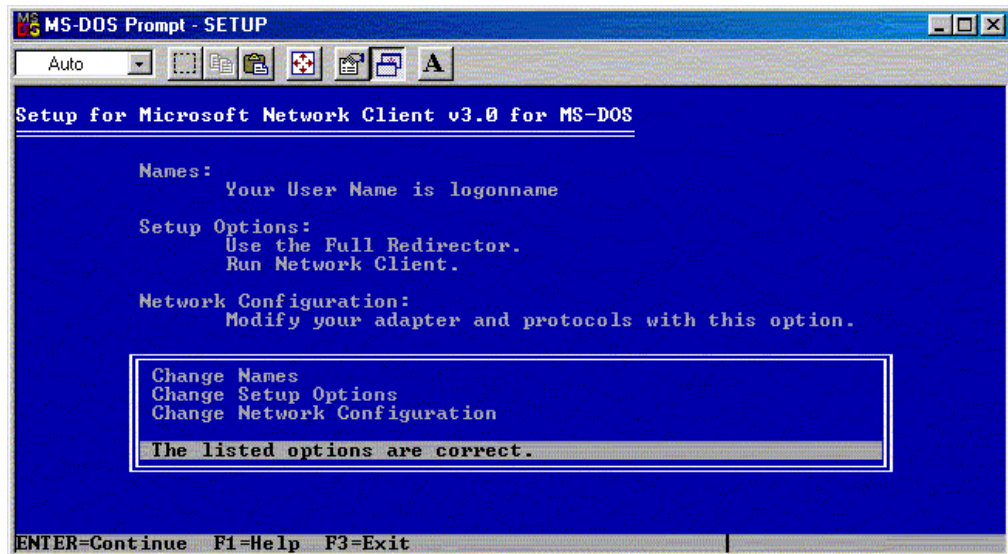
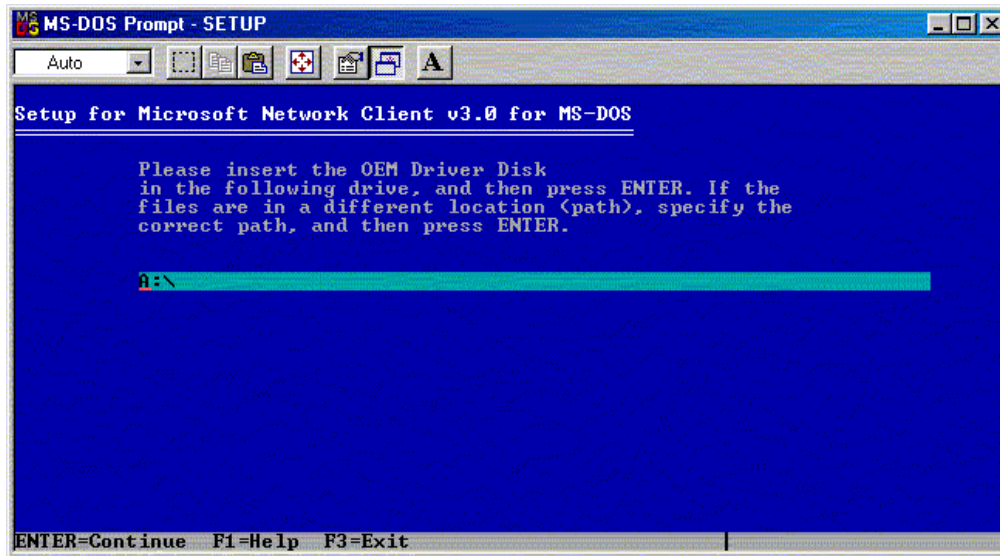

Figure A-10: Default Network Client 3.0 settings
Figure A-14: Default location prompt for the OEM Driver Disk
8. Enter the network logon user name. A screen similar to Figure A-10 displays the default Network Client 3.0 settings.
15. Press the **Enter** key again at the Network Client 3.0 settings screen (Figure A-10), and a prompt for the OEM Driver Disk is displayed, similar to Figure A-14.